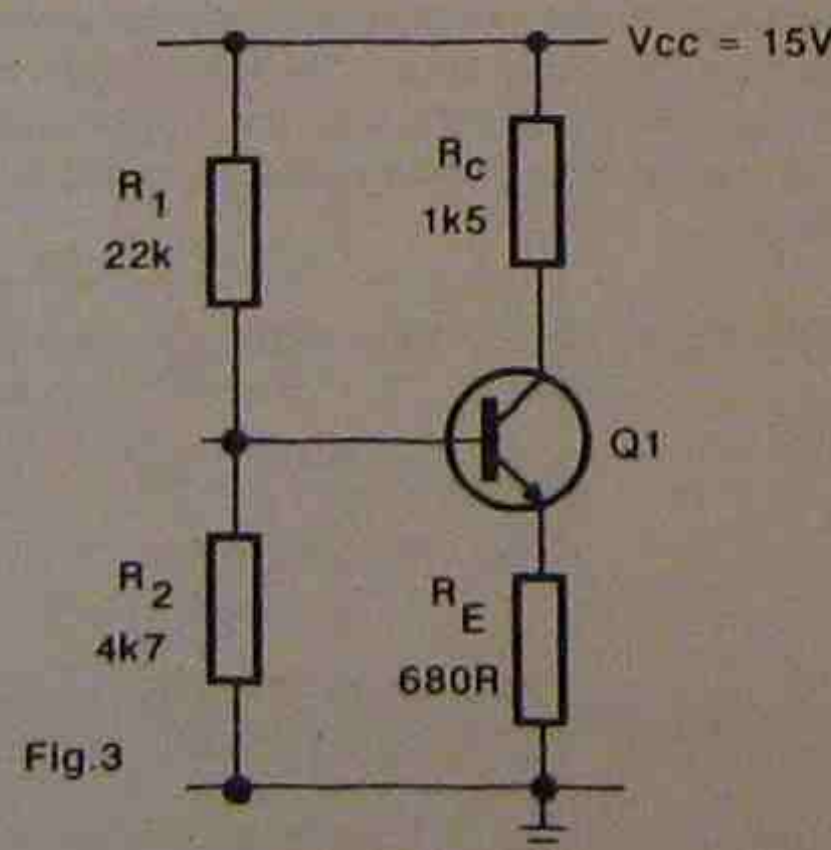

Fig.3
3. Calculate the base voltage ( $V_B$ ), emitter voltage ( $V_E$ ) and the collector voltage ( $V_C$ ) for the circuit of Fig.3.
4. Give two reasons why the circuit of Fig.3 is more stable against changes in temperature and  $\beta$  than Figs.1 or 2.